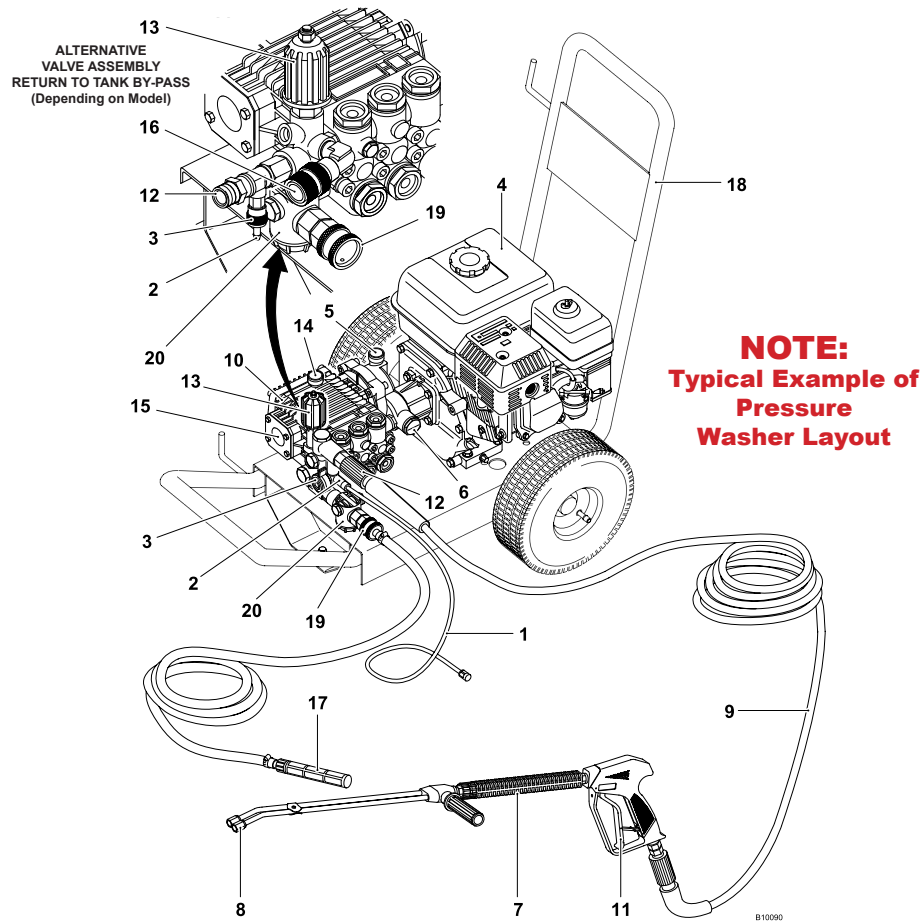
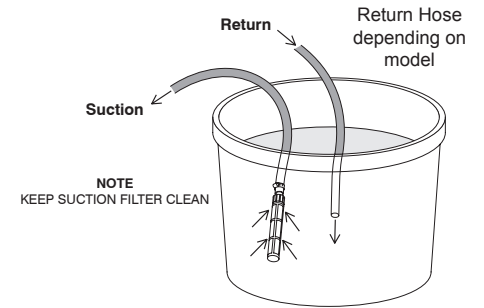

Fig 2 Description of main features
Fig 4. Submerge the suction hose.
6.2.3 Squeeze the trigger to start the high-pressure jet, proceed to wash the object. Adjust the working pressure by turning the pressure regulator knob + or - to suit the application (fig 2, item 13). Never direct the high-pressure stream at the engine or pump as this could cause irreparable damage.
Attach the detergent induction pipe to the power washer, (fig 2, item 1) placing the opposite filter end into the detergent container. Select the low pressure setting on the lance, (see appendix 1 for details of your lance) and spray the water/detergent mixture onto the object being cleaned. Leave the detergent for the period recommended by the chemical manufacturer allowing it time to work, washing off with clean water. The volume of detergent used can be controlled by means of the regulator on the suction valve (see fig 2. item 3).
#### 4. Description of Main Features (fig 2)
- 5.5 Connect the water return line to its connector and place the other end in the water supply container. (Bypass to tank models only) (Fig 2 item 16 & Fig 4).
- 5.6 Submerge the opposite end of the suction hose and its suction filter in a suitable container containing the water supply (fig 4). Ensure the filter is always kept below the water level.